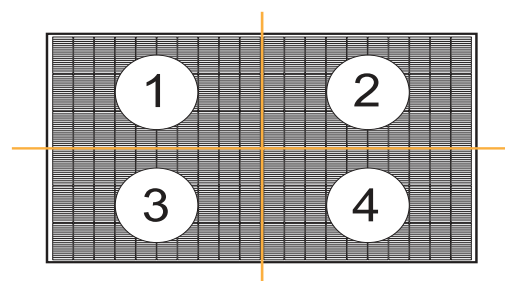

Figure 6. Module quarter division
- The module must be secured, e.g., clamped, at least once in each of the four marked zones shown below (Figure. 6).
Once a module is secured in each of the 4 zones (Figure 6), additional clamps, i.e., ≥5 may be freely located on panel frame without affecting the warranty. Loads marked with a * were not certified as part of UL 61730 testing; these have been evaluated by internal testing process.